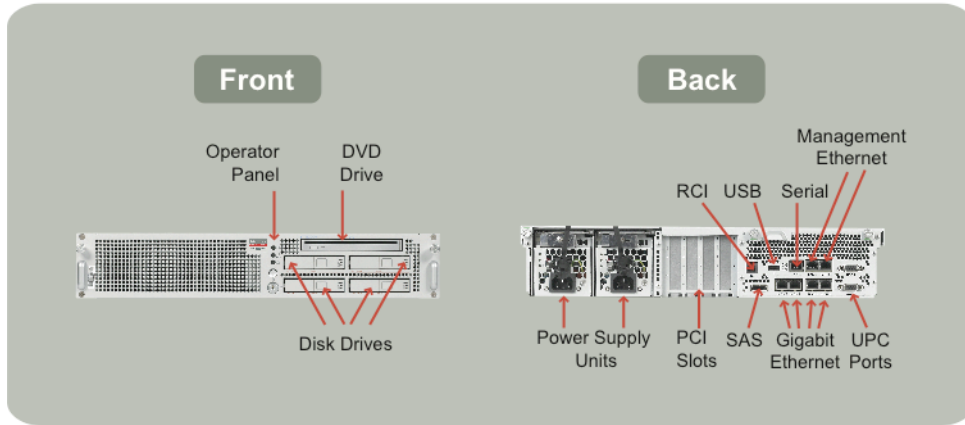

Figure 2. SPARC Enterprise M3000 server enclosure diagram
The SPARC Enterprise M3000 server enclosure measures two rack-units (RU) and supports one processor chip and up to 64 GB of memory. The SPARC64 VII/VII+ (dual-core or quad-core) processor chip is mounted on the motherboard. The I/O subsystem of the SPARC Enterprise M3000 server features four short internal PCI Express slots, four internal disk drives, one internal DVD drive, and an external SAS port for attaching additional storage or tape device units. Two power supplies and two fan units power and cool the server. Front and rear views of the SPARC Enterprise M3000 server are found in Figure 2.